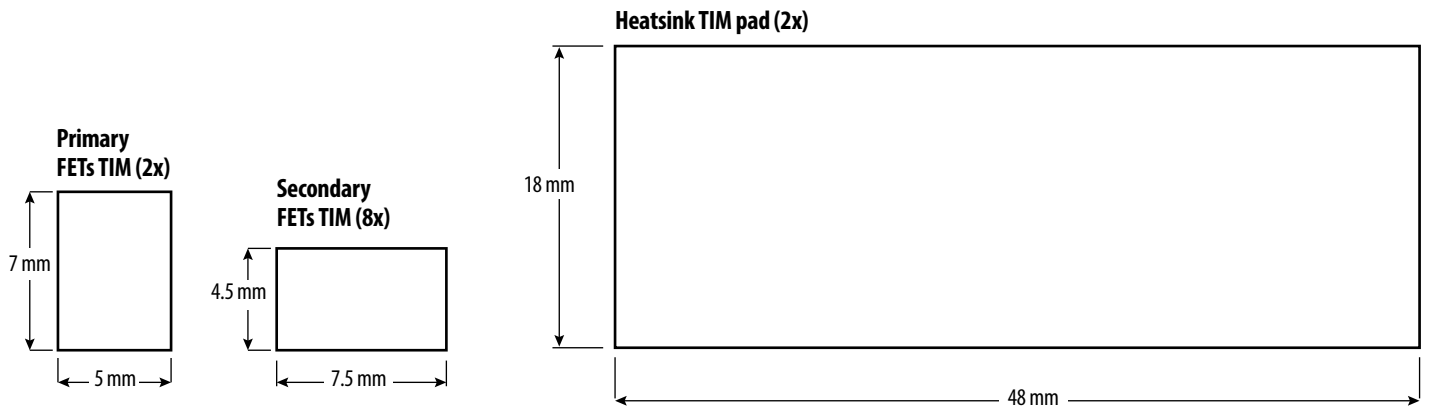

Figure 12: Drawings and dimensions of TIM pad cutouts for primary FETs, secondary FETs and heatsinks.
3. Place **TIM pads** (TG-A1780) on the primary and secondary FETs (Figure 12)
5. Place **TIM pad** (TG-A6200) on the backside of the heatsink (flat side) and align it to PCB holes (Figure 12)
- Place **TIM pad** (TG-A1780) cutouts to cover primary and secondary FETs (Figure 12)
- Place TIM (TG-A6200) on backside of heatsink and align it to screw holes (Figure 12)